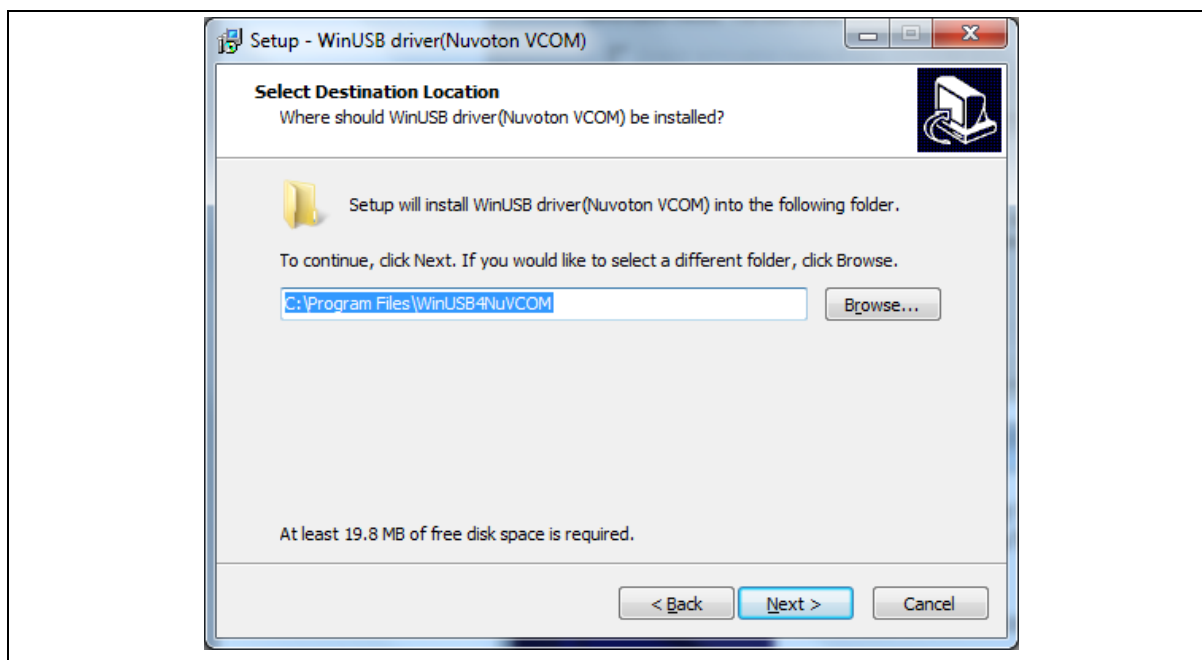

Figure 2-2 WinUSB4NuVCOM Driver Setup (2)
Step 2: Click "**Next**". This screen tells you that the WinUSB4NuVCOM 1.0 driver is about to be installed (Figure 2-2).